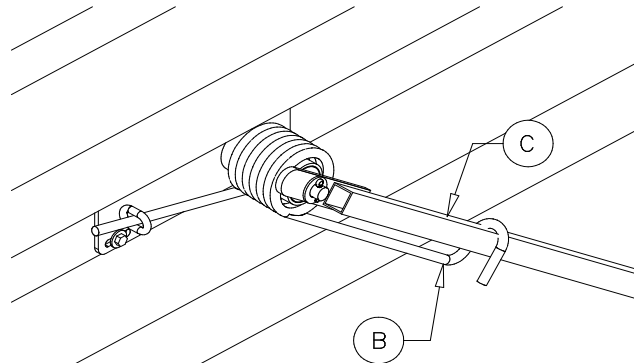

Figure 13
Position the bottom pivot arm (C) so it is hooked in the helical torsion spring (B) (see Figure 13). Repeat the above procedure for the opposite side of the box.
Slide the rear pivot arm crossmember (F) through the rear tarp pocket. Position the rear pivot arm crossmember at Point B (see Figure 13 & 17).